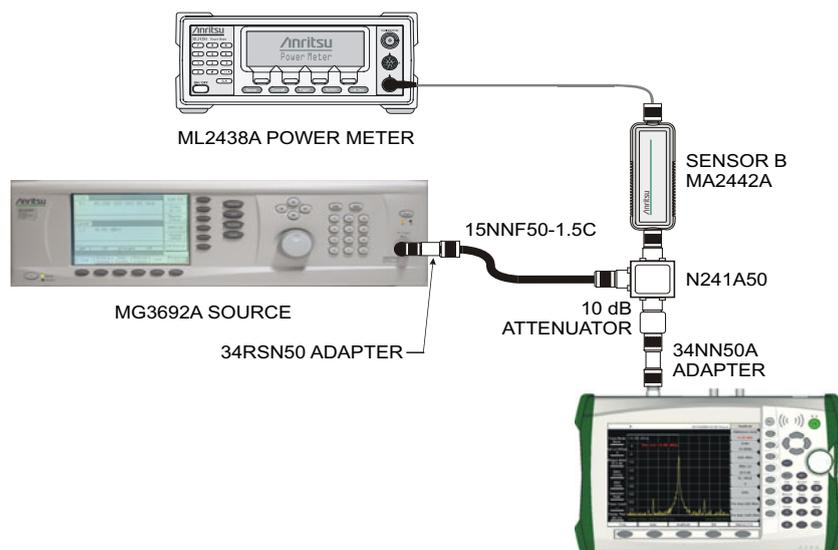

Figure 2-4. MS203xA Power Meter Level Accuracy
1. Connect the equipment as shown in Figure 2-4.